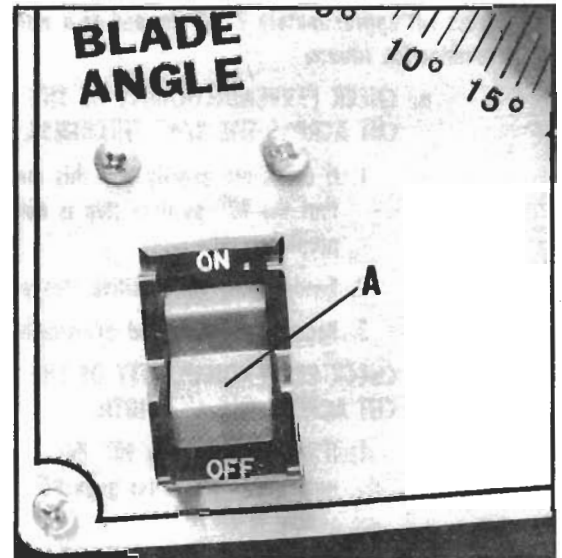

Fig. 37
IMPORTANT: BEFORE CONNECTING SAW TO POWER SOURCE, MAKE SURE THE SWITCH (A) FIG. 37 IS IN THE "OFF" POSITION. (Switch is pushed downward for "OFF.")
The switch (A) is located on the lower left front panel of the saw cabinet as shown in Fig. 37. To turn the saw "ON" move the switch (A) Fig. 37, to the up position. To turn the saw "OFF" move the switch to the down position. **WE SUGGEST THAT WHEN THE SAW IS NOT IN USE, THE SWITCH BE LOCKED IN THE "OFF" POSITION.** This can be done by using a secure pin which inserts through the 2 side holes.